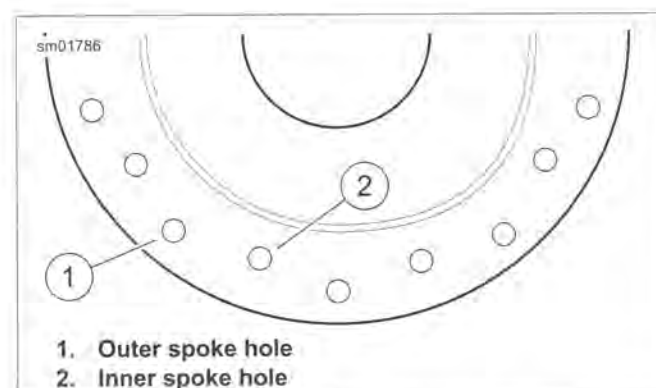

Figure 2-17. Spoke Hole Pattern
See Figure 2-17. The spoke holes in the wheel hub are staggered, alternating between inner holes (2) (nearer hub center) and outer holes (1) (nearer hub edge).